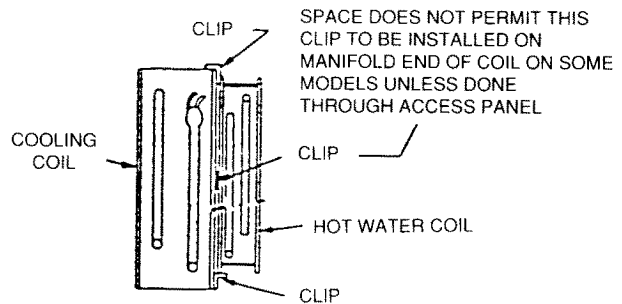

Fig. 9 - Securing Hot Water Coil
3. Remove 2 galvanized strips from hot water coil package. Install angle strip with notches resting in drain pan, and 1/2 in. flange pointing toward blower. Secure this angle strip to end plate of cooling coil by clips supplied in package. (Fig. 9.) Place clips at each end of strip as close as possible to flange.
6. Secure hot water coil to cooling coil by fastening 2 clips over cooling coil and hot water coil end plates, (Fig. 9).